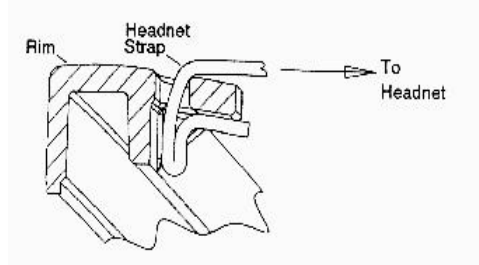

Figure 1. Top Straps Installation
Read the attached installation instructions, paying particular attention to Section VI, INSTALLATION, items 2, 3 & 4 and Figure 1, Top Straps Installation. Compare the installation of your Headnet to the one shown in Figure 1 to verify proper installation of the Headnet. If the installation of your Headnet differs from that shown in Figure 1, remove the Headnet and reinstall following the installation instructions and all Warnings, Cautions, and Notes.
3. Insert the three top straps through the slots in the upper rim as shown in Figure 1.